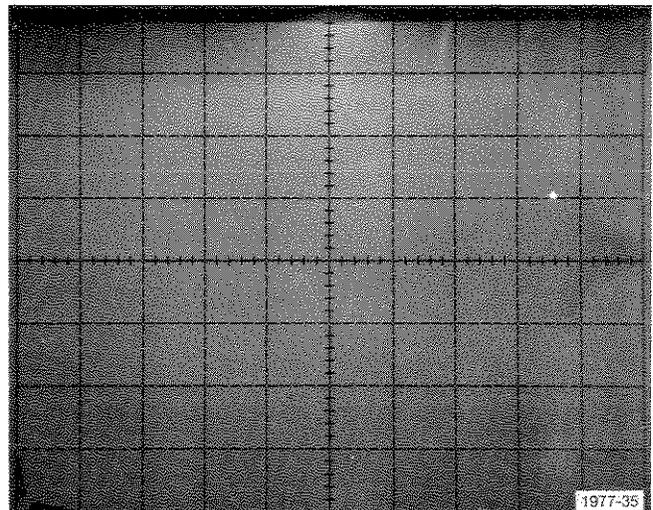

Fig. D-6. Display showing the quiescent supply current of the LM380.
a. Note the vertical displacement of the trace from the zero reference point (see Fig. D-6).